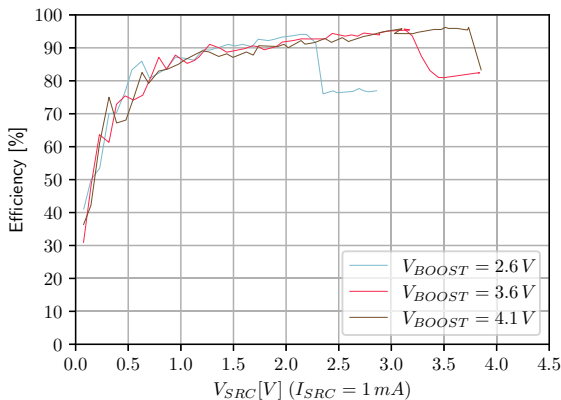

Figure 9: Boost efficiency for  $I_{SRC} = 1 \text{ mA}$
- **VBOOST**: Measure the current and the voltage. Repeat the measurement a copious number of times to be sure to capture the current peaks. Figure 9 has been obtained by averaging over 100 measurements configured with a 100 ms integration time.